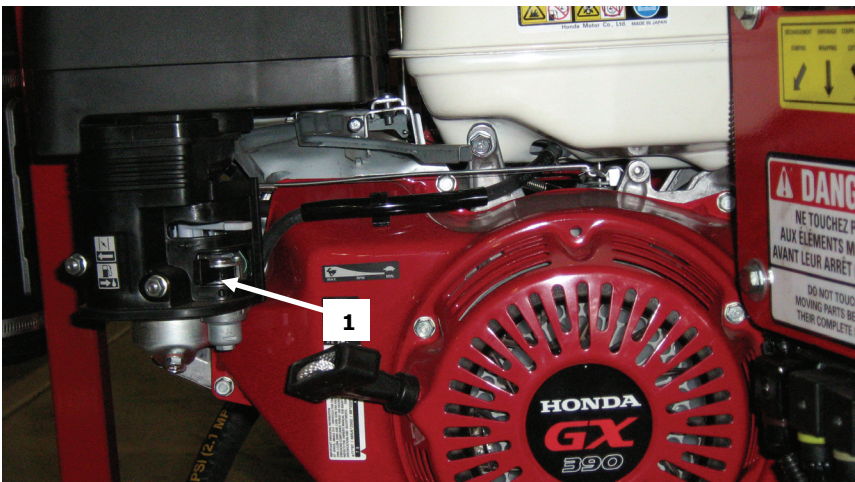

Figure 2.1 Closing the fuel valve
At the end of each day's work and especially if you will not use the bale wrapper again for a long period of time, do not forget to close the engine fuel valve (1), located beneath the choke on the right side of the engine (Figure 2.1).